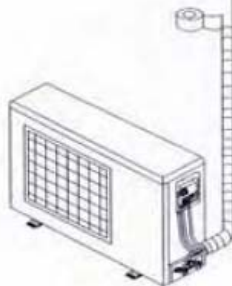

Fig.51
(1) Use adhesive tape to bundle the connecting pipe and the cables together. To prevent condensate from overflowing out from the drainage pipe, separate the drainage pipe from the connecting pipe and the cables.
(2) Use thermal insulation tape to wrap the pipes from the bottom of the outdoor unit until the upper end of the pipe where the pipe enters the wall. When wrapping thermal insulation tape, the later circle of tape must cover half of the front circle of tape (Refer to Fig.51).
(3) Wrapped pipe must be fixed to wall using pipe clamps.